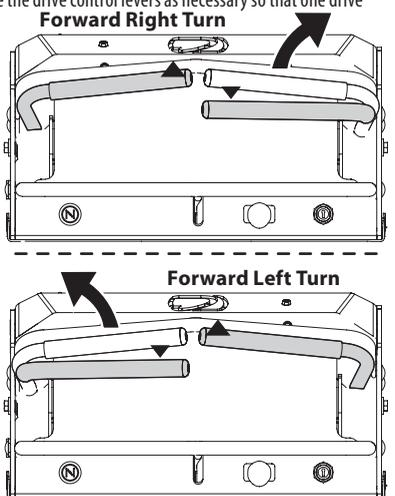

Figure 12
1. To turn to the right, move the right drive control lever rearward of the left lever (Figure 12).
2. To turn to the left, move the left drive control lever rearward of the right drive control lever (Figure 12).